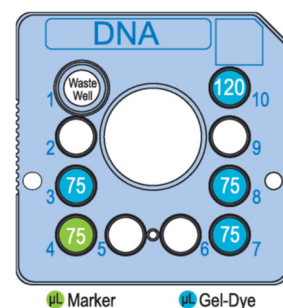

Figure 1. Up to 24 samples
- 7 Use a reverse pipetting technique to add gel-dye to chip wells 3, 7, 8, and 10 shown in Figure 1. **Add plasmid DNA Marker** ● to chip well 4, as shown in Figure 1.